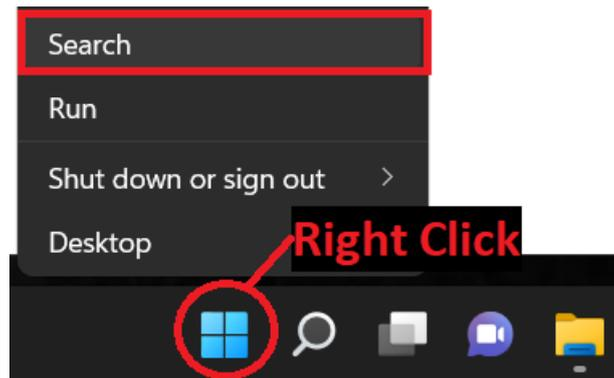

Figure 13: Windows search console
- 1- In Windows right click the Start menu (windows icon) and click on the search icon. See Figure 13